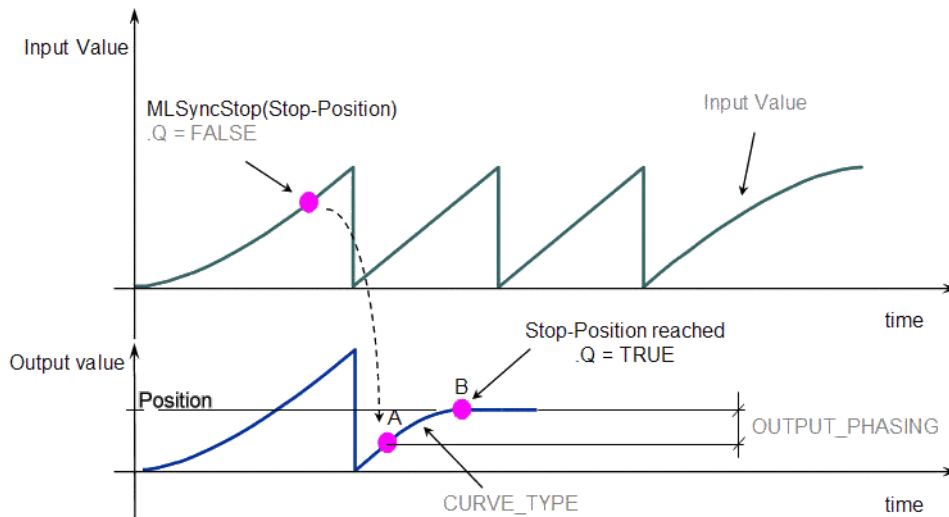

Figure 4-77: Get Output Phasing after **MLSyncStop**
- The OUTPUT_PHASING parameter is used to define point A, where the flow follows a curve in order to smooth the output value. (Figure 4-77)